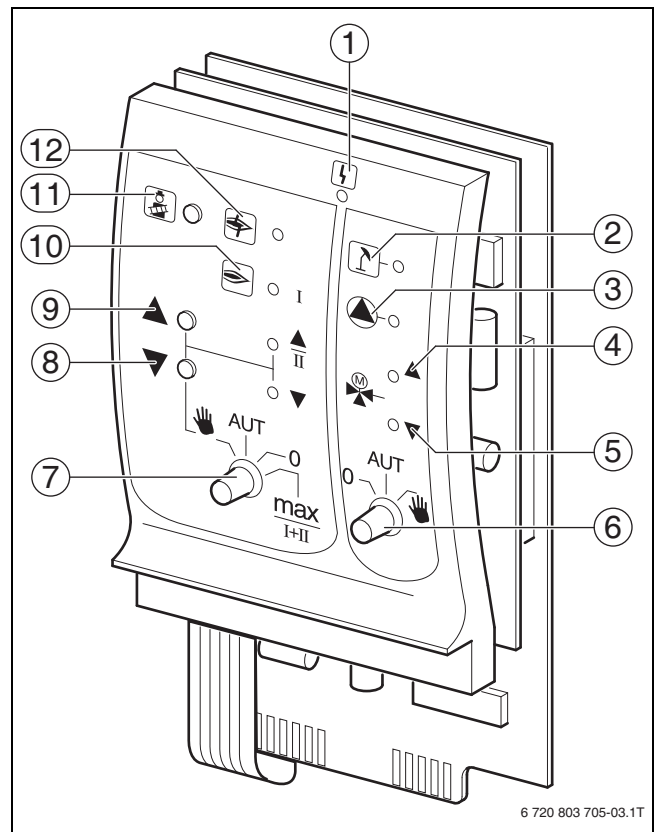

Fig. 11 ZM434
If the manual switches are not set to automatic, a corresponding message appears on the MEC2 programming unit and the fault indicator (fig. 11, [1]) illuminates.
- Press and hold button **Flue gas test** (→ fig. 11, [11], page 11) for a few seconds.
During the flue gas test, the indicators **Fault** (→ fig. 11, [1], page 11) and **Summer mode** (→ fig. 11, [2], page 11) mode flash alternately.
Positions **0**, **Manual** and **max I + II** of the burner's manual switch are special settings (→ fig. 11, [7], page 11) reserved for contractors, e.g. in case of failure of the control system or during service and maintenance.
Positions **0** and **Manual** are special settings of the manual switch of the boiler circuit (→ fig. 11, [6], page 11) reserved for contractors.